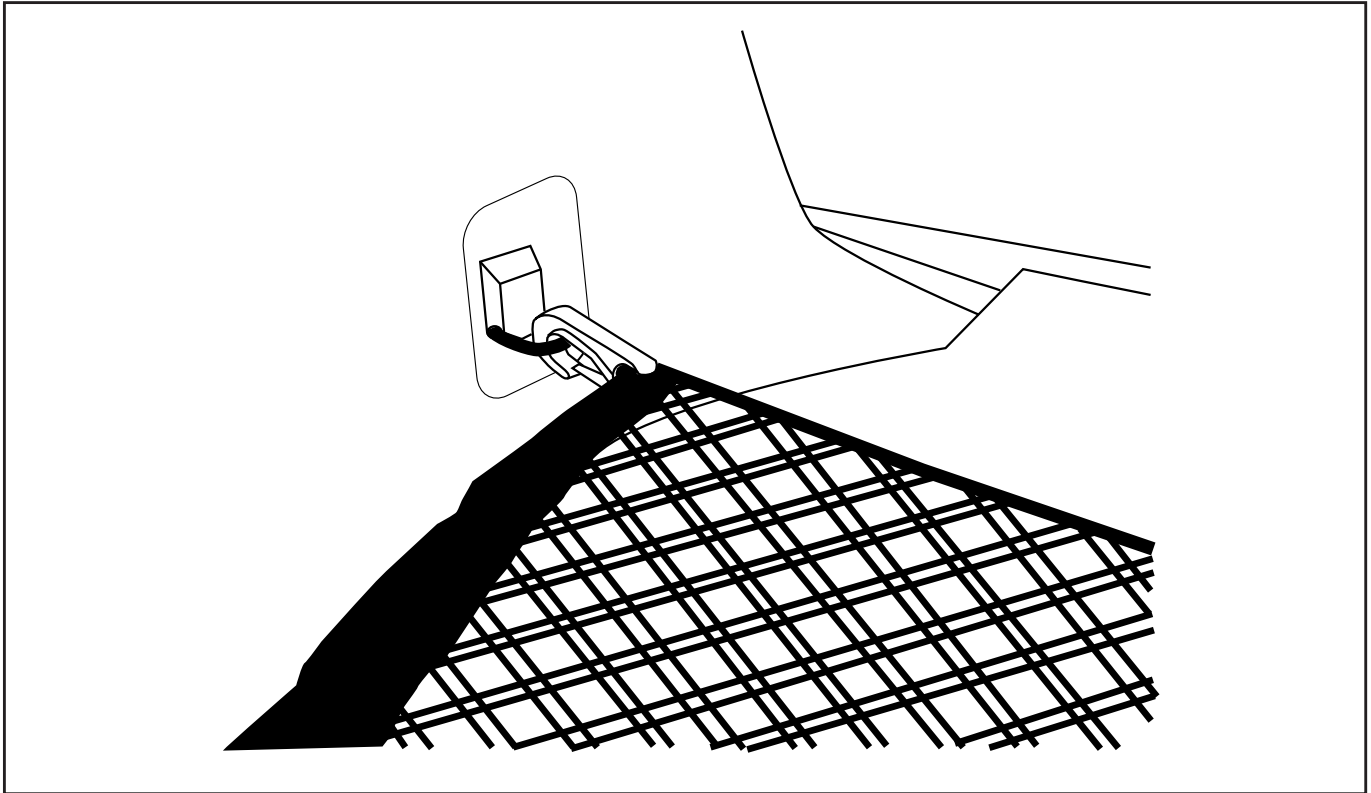

Fig. 12
13. Attach net clips to D-rings (Fig. 12).